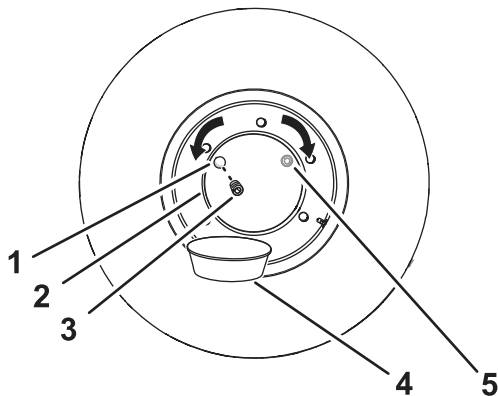

Figure 93
2. Move the machine forward or backward until the plug for the wheel hub is at either the 10 o'clock or 2 o'clock position (Figure 93).
8. Install the plug in the oil port of the wheel hub (Figure 93).
1. Move the machine forward or backward until the oil plug for the wheel hub is at the 12 o'clock position; refer to Figure 93 in Checking the Oil Level in the Wheel Hubs (page 68).
4. Place a drain pan under the drain port in the wheel hub (Figure 93).
5. Remove the plug from the wheel hub (Figure 93).
6. Check that the oil level is at the bottom of the threads of the oil port (Figure 93).